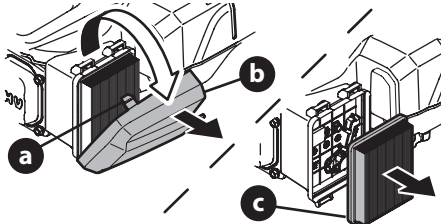

Figure 9
1. Press down on the tabs (a) securing the air filter cover (b). Pull back and remove the cover (Figure 9).